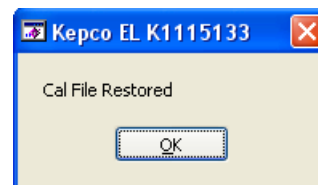

FIGURE 8. CAL FILE RESTORED WINDOW
4. When done, the **Cal File Restored** window opens (see Figure 8), entitled Kepco EL xxxxxxxx where xxxxxxxx is the serial number of the EL Load, and the message Cal File Restored is displayed. Click **OK** to end the program.